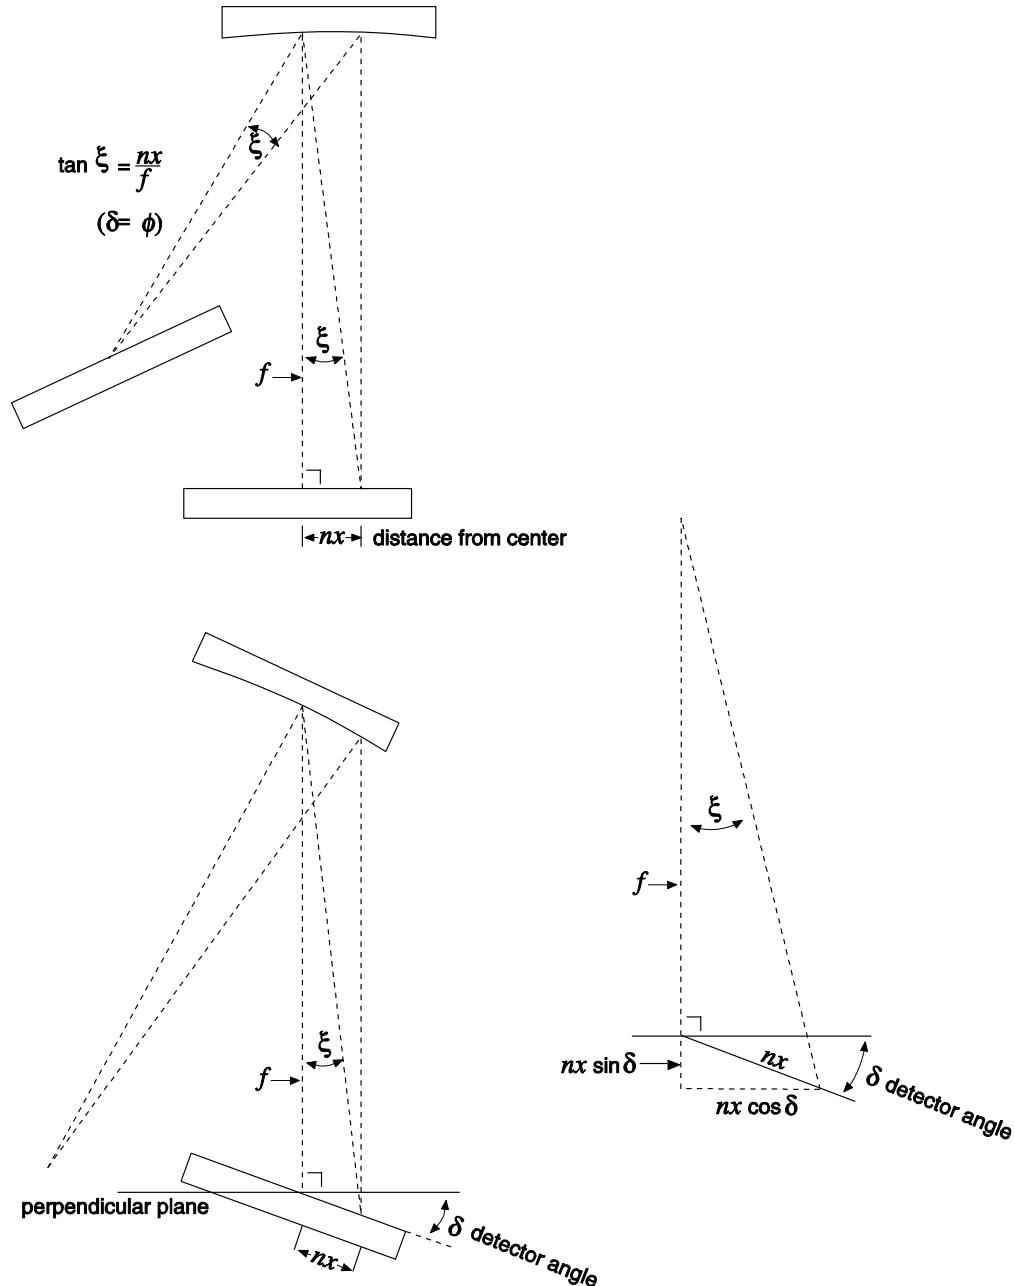

Figure 207. Relationship between  $\xi$  and the focal length, detector angle, and the distance of  $\lambda'$  from image plane
Note that the wavelength at the **center** of the exit plane does not depend on the focal length,  $f$ . However, the wavelength at points off center depends on both the focal length and the detector angle,  $\delta$  (the angle of the image plane relative to the plane perpendicular to the spectrograph focal axis at the center of the image plane; see Figure 207). For some wavelength  $\lambda'$  relatively close to  $\lambda$  (at the same grating angle),
$$\tan \xi = (\mathbf{n}x \cos \delta) / (f + \mathbf{n}x \sin \delta), \text{ as shown in Figure 207.} \quad (4)$$